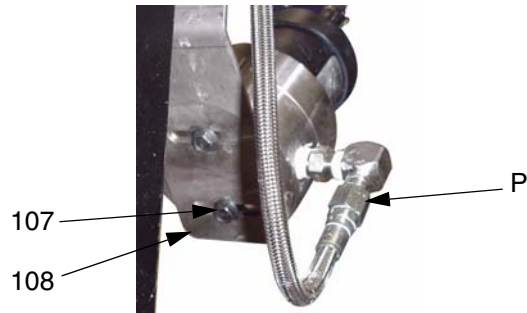
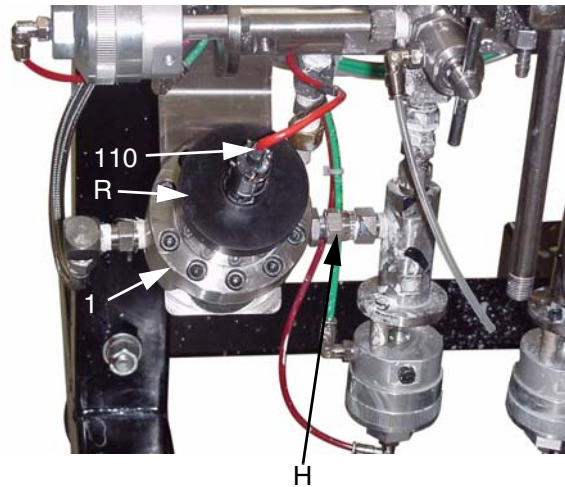

FIG. 19
FIG. 20
4. Unscrew cable connector (110) from meter (1). FIG. 20.
5. Unscrew M6 screws (107) from bottom of meter mounting plate (108) with socket wrench. FIG. 19.
6. Unscrew fluid line from meter inlet (P).
-  The meter shield (R) is unattached and may fall off when you remove the meter (1). FIG. 20.
7. Unscrew meter (1) from dispense valve connector (H). FIG. 20.